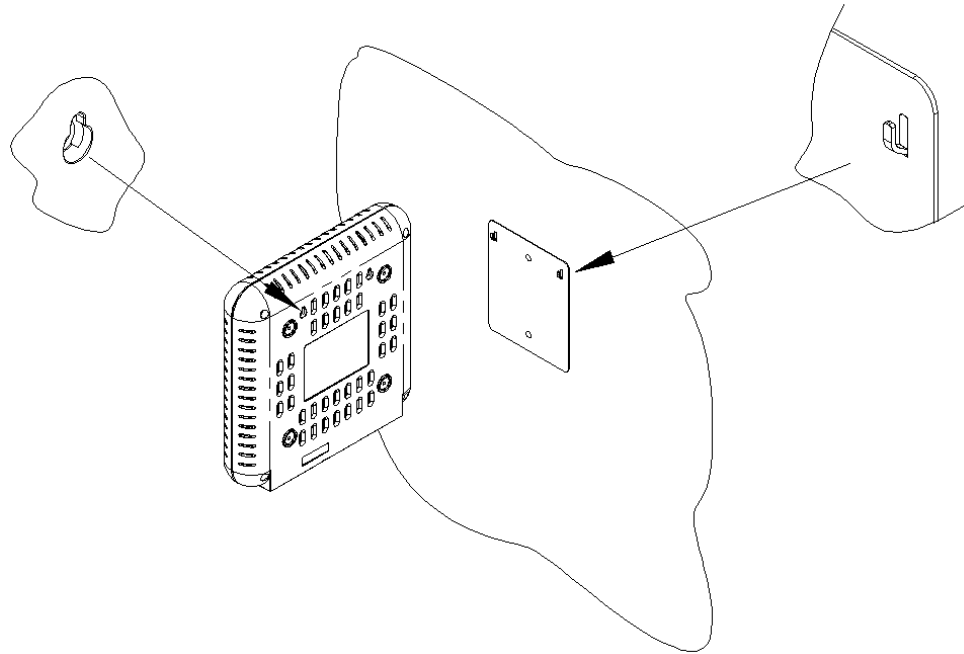

Figure 18: Positioning BSAP-1700 on Hooks
3. Using hooks provided on bracket, position BSAP-1700. Notice the wall mount grooves on the back of the BSAP-1700 (see Figure 18).